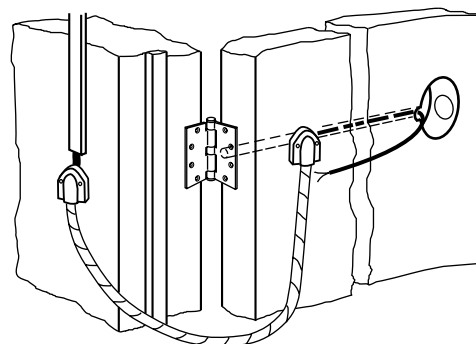

Figure 9—Mounting the door transfer loop to the door and frame
- 4 Mount the door transfer loop to the door and frame as shown in Figure 9.